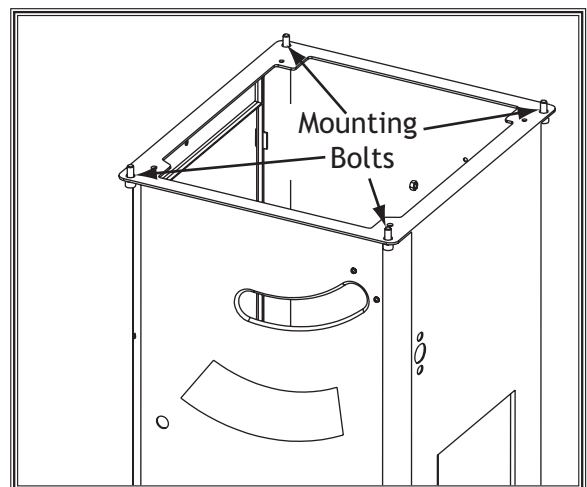

Figure 101. Table mounting bolts.
6. To adjust the table, loosen the four cap screws in the table mounting locations (see **Figure 101**) and slightly tap the table in the needed direction. Repeat **Steps 2-5** until the blade and miter slot are parallel.